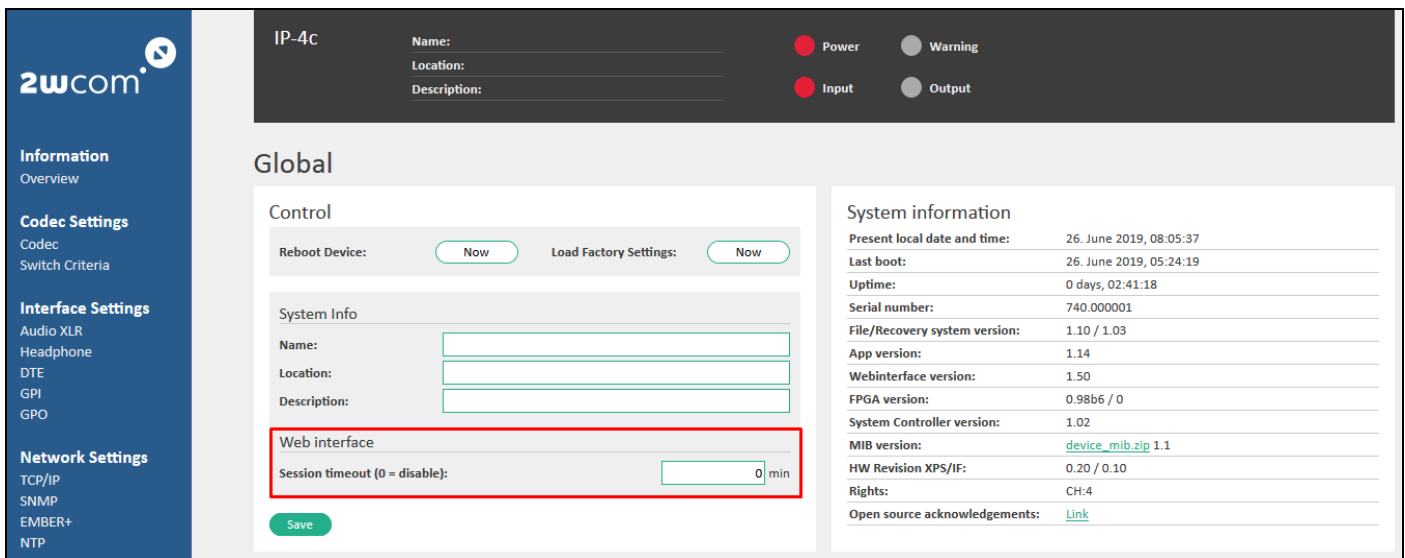

Figure 97: Session timeout for the web interface
1. Open the window *Global* under **System Settings**→**Global** (see Figure 97 on page 109).